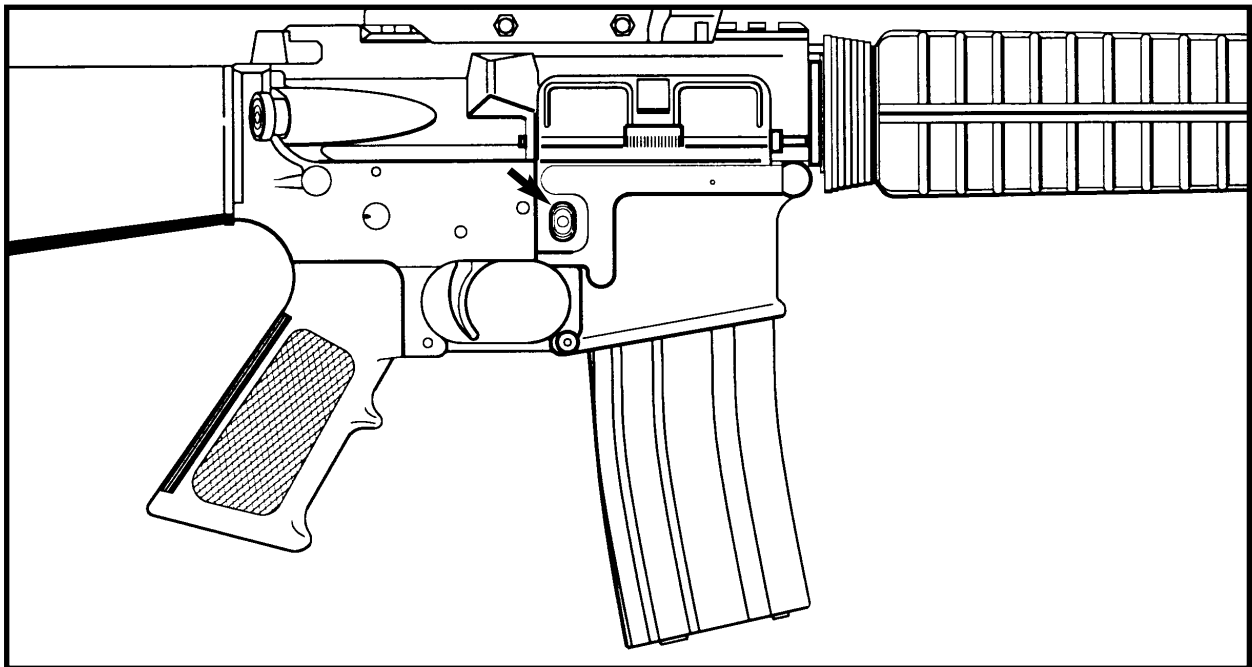

Figure 3-2-1 Magazine Removal
- a. Depress the magazine catch and remove the magazine. See Figure 3-2-1;